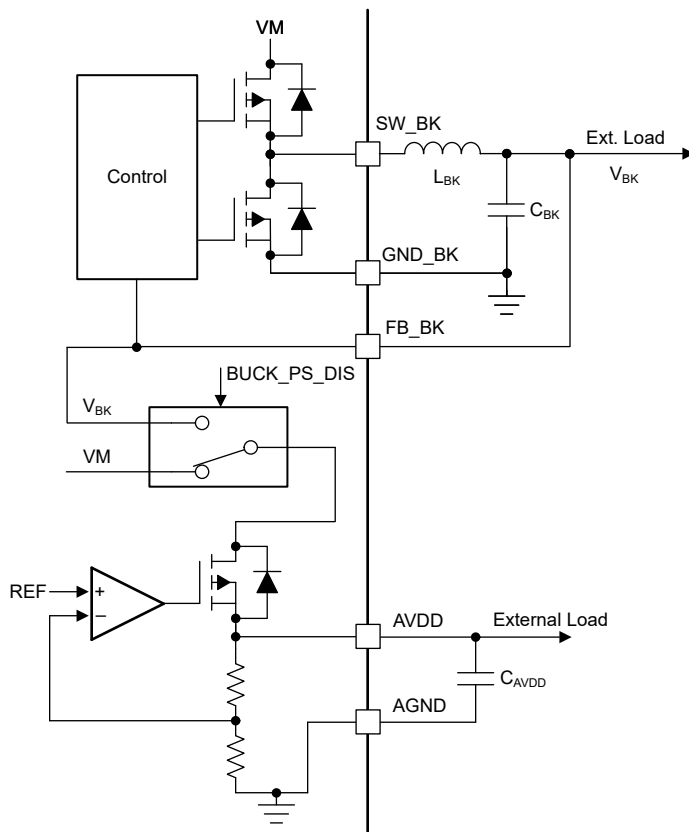

図 8-13. AVDD Power Sequencing on mixed mode Buck Regulator
The AVDD LDO has an option of using the power supply from mixed mode buck regulator to reduce power dissipation internally. The power sequencing mode allows on-the-fly changeover of LDO power supply from DC mains (VM) to buck output (VBK) as shown in 図 8-13. This sequencing can be configured through the BUCK_PS_DIS bit. Power sequencing is supported only when buck output voltage is set to 5.0 V or 5.7 V.